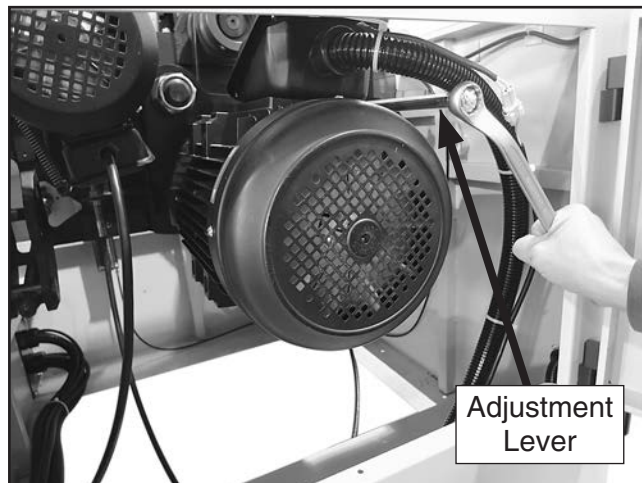

Figure 154. Rotating motor position using motor adjustment lever.
3. Rotate adjustment lever clockwise to raise motor and release belt tension (see **Figure 154**). The cam will lock the motor in place.